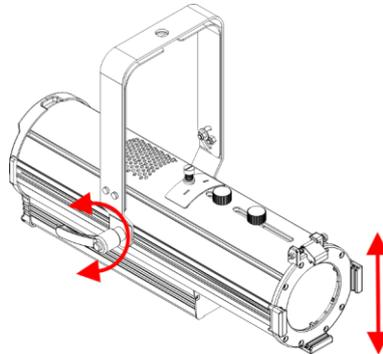

Fig. 07
- 01) Turn the **adjustment handle (11)** counterclockwise to loosen it.
- 02) Tilt the device to the desired angle (see Fig. 07).
- 03) Turn the **adjustment handle (11)** clockwise to tighten it. Make sure that the device cannot move freely after the **adjustment handle (11)** is tightened.